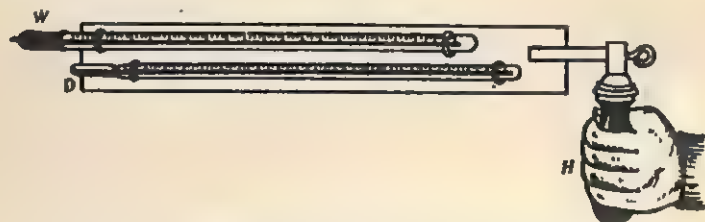

Fig. 10.3. Sling psychrometer used by meteorologists for relative humidity.
**Sling psychrometer** which is a slight modification of "wet and dry bulb hygrometer". This instrument also consists of two identical thermometers mounted on a light frame which can be rotated rapidly in air as shown in Fig. 10.3. One of the thermometers, *i.e.*, the wet bulb, is covered with a wick which is saturated with water before rotating. The other thermometer *i.e.*, dry bulb thermometer has no wick. As the instrument is "whirled" or slung through the air, evaporation from the wick occurs, cooling the bulb of the "wet bulb thermometer". Its temperature reading falls below that of the dry bulb thermometer. The difference between the readings of the two thermometers gives the relative humidity on using the relative humidity table.